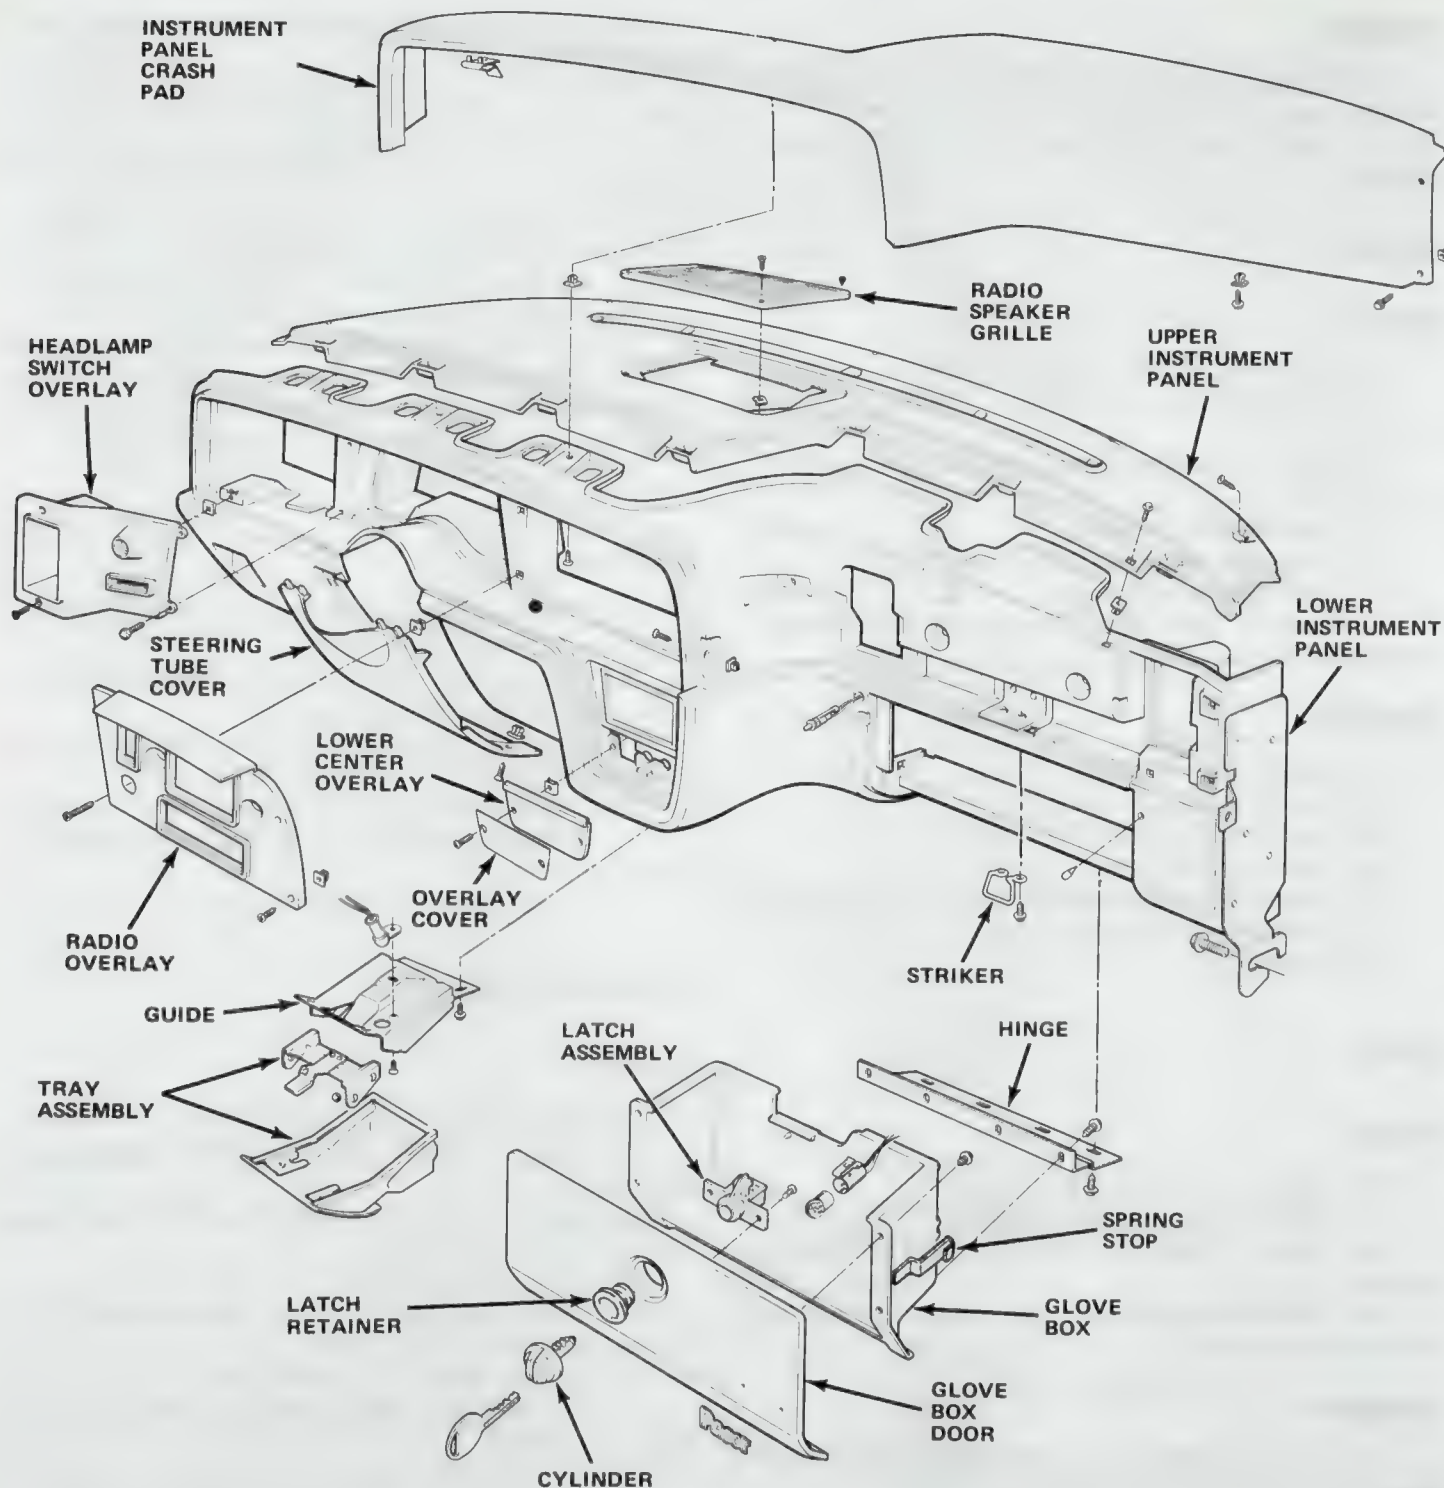

Fig. 3C-10 Instrument Panel and Components
- (1) Disconnect battery negative cable.
- (2) Remove Rally Instrumentation cluster, if equipped.
- (3) Remove cluster bezel and remove headlamp switch overlay (fig. 3C-10).
- (4) Remove radio overlay.
- (5) Remove steering tube cover and disconnect gear selector dial cable, if equipped.
- (6) Remove instrument cluster case.
- (7) Remove upper right corner and side windshield finish mouldings.
- (8) Remove crash pad.
- (9) Remove upper left corner and side windshield finish mouldings.
- (10) Cover steering instrument column to prevent damage.
- (11) Remove heater or air conditioning control panel attaching screws and remove radio, if equipped. Move control panel aside.
- (12) Remove right and left scuff plates and cowl trim panels.